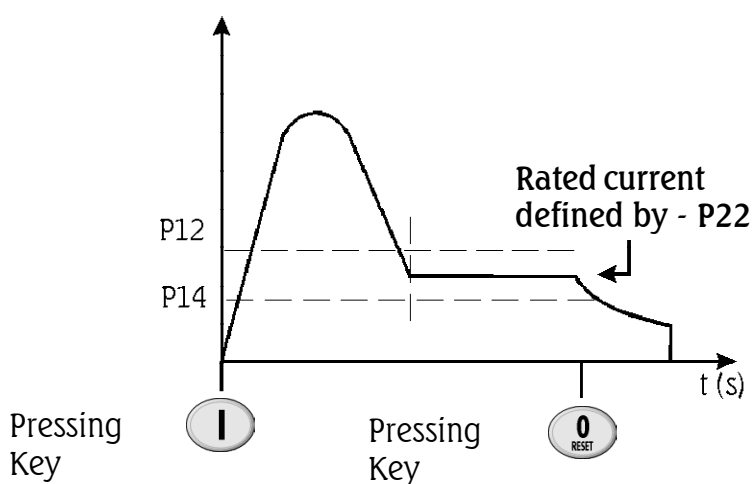

Figure 6.4 - Protection against over/undercurrent at duty
- It adjusts the instantaneous overcurrent level that the motor or Soft-Starter permits during a time preset at P13, after then the switch is switched Off, indicating E06, as shown in Figure 6.4.
- ☑ It set the minimum undercurrent that the Motor + load can operate without problems. This protection actuates when the current of load (Figure 6.4) goes to a value lower than set in P14; and for a time equal or higher than preset in P15, indicating error, E05.